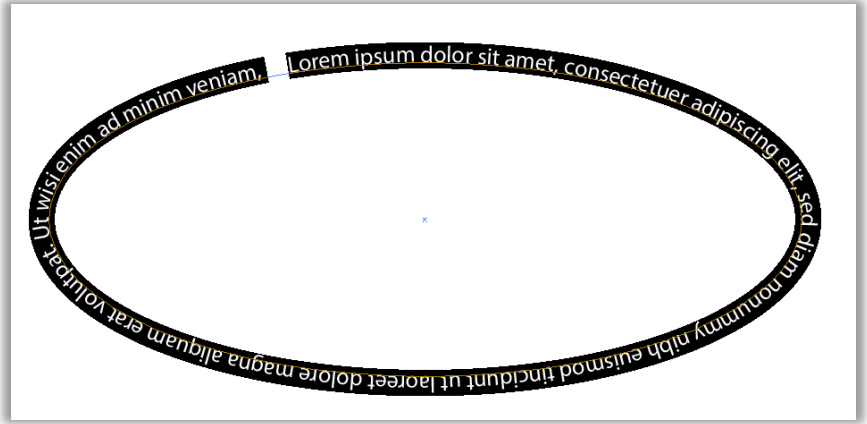

Figure 19: The Type on a Path Tool used on an ellipse.
- a. You must create a shape/path first, then click on it using this tool (**Figure 19**)